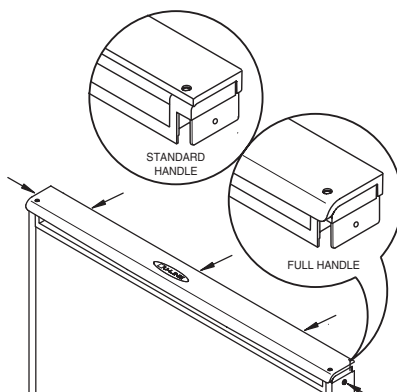

Figure 15
3. Remove the two outside screws and the lower handle (Figure 15).